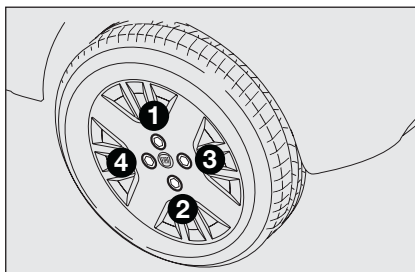

fig. 11
- ☐ use the wrench provided to tighten the bolts completely in a criss-cross fashion following the numerical sequence shown in **fig. 11**.